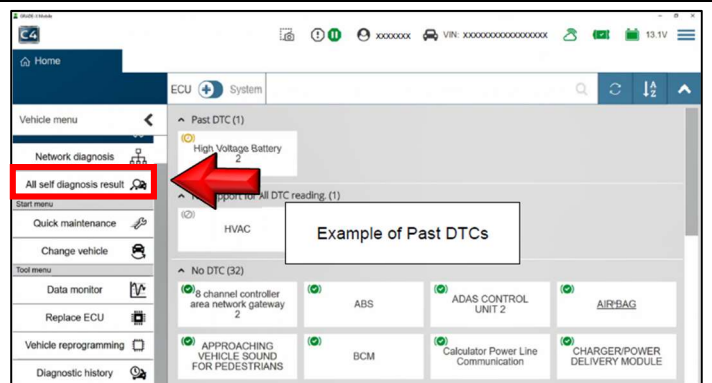

Figure 30
33. Select **All self-diagnosis result**. (Figure 30)